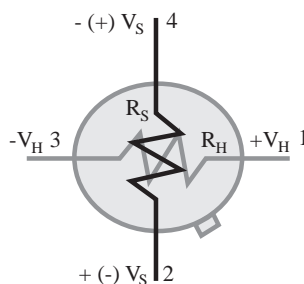

Figure 2: Sensor equivalent circuit (Top View)
■ The operating temperature is controlled by  $V_H$  applied on the heater resistor ( $R_H$ ). A polarization voltage ( $V_S$ ) is applied to the sensitive layer which resistance can be measured using an electric circuit shown in figure 4. The 4-pins package is indicated on figure 2.